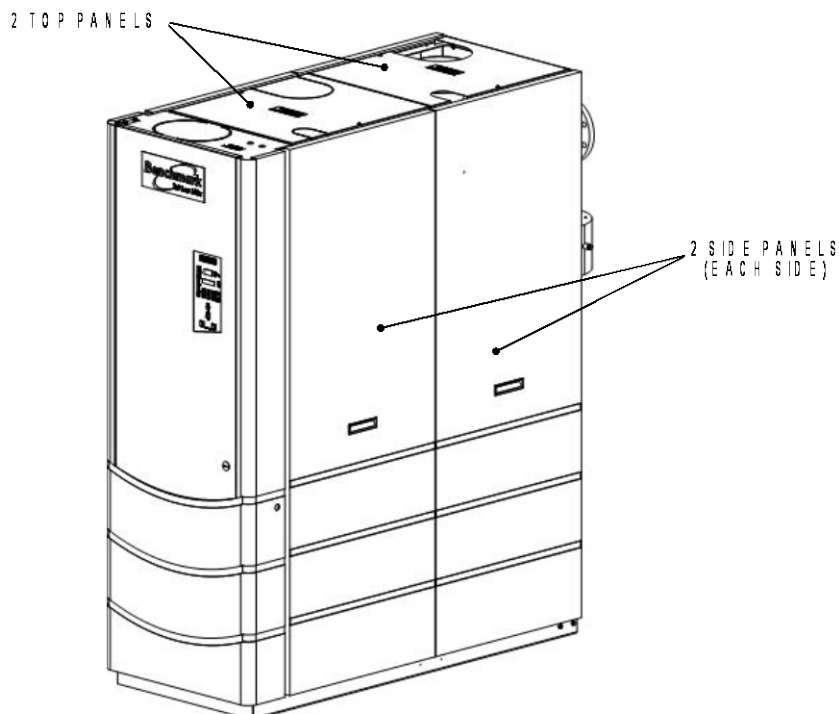

Figure 1. Benchmark 3.0 Low NOx (LN) Boiler
5. Refer to Figure 1 and remove the top and side panels of the unit.